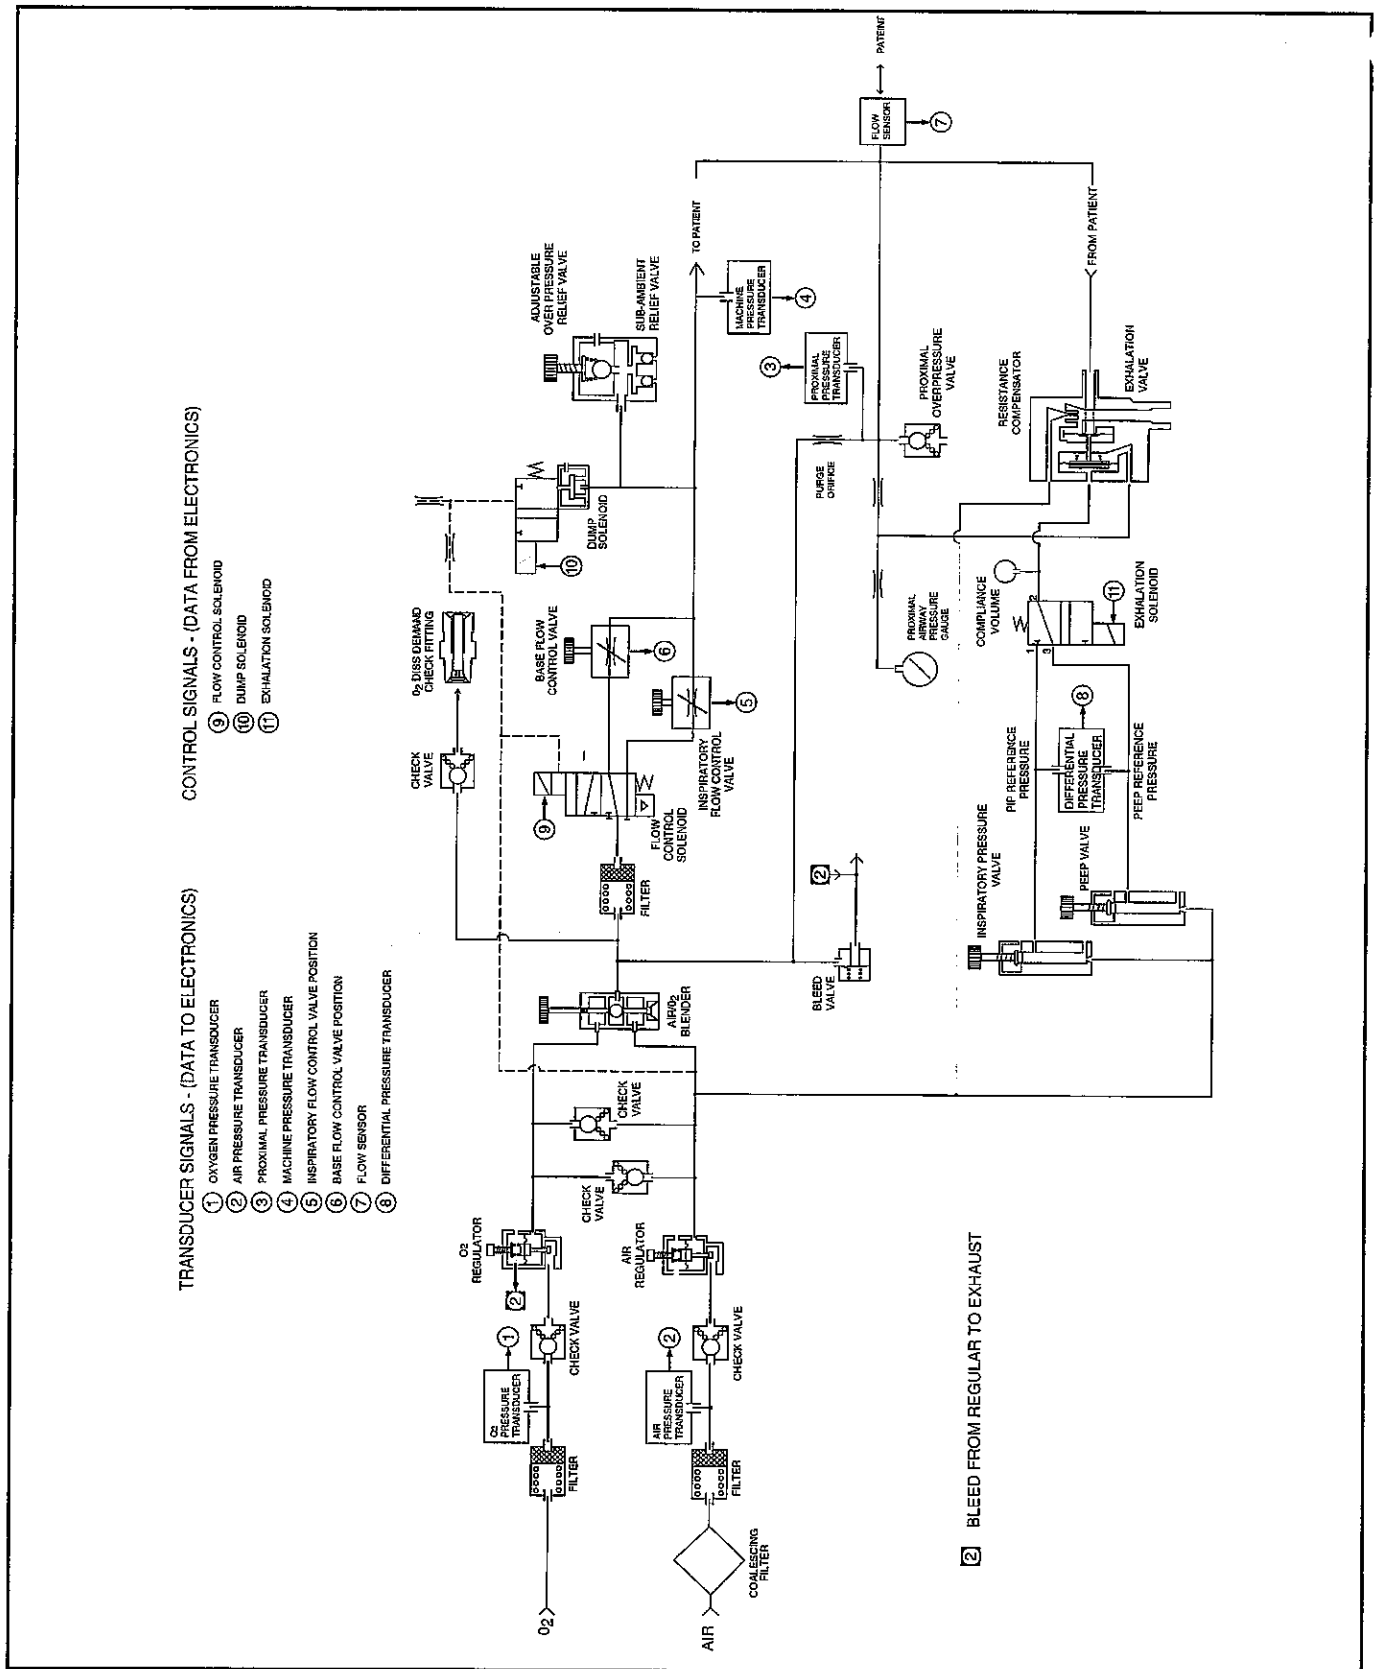

Figure 8-2 • Bear Cub 750psv Infant Ventilator Pneumatic Schematic
Figure 8-2 shows the schematic diagram of the BEAR CUB 750PSV Infant Ventilator Pneumatics System. The pneumatics interface to the electronics is achieved using various actuators (solenoids) and transducers. The Pneumatics System consists of eight (8) main subsystems: Gas Inlet and Conditioning, Oxygen Blender System, Flow Control, Sub-Ambient/Overpressure Relief system, Exhalation Valve/Pressure Control, Pressure Monitoring, the Proximal Airway Purge System, and the Auxiliary Gas Outlet.